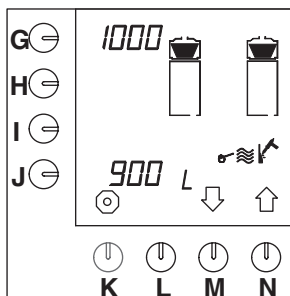

Fig. 18 Descaling counter coffee-making system
- The descaling counter appears on the display (fig.18 ).